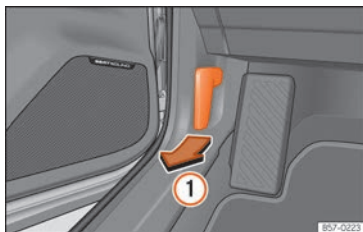

Fig. 219 Release lever in the driver's footwell area.
- Open the door and pull the lever under the dashboard »» Fig. 219 ①.